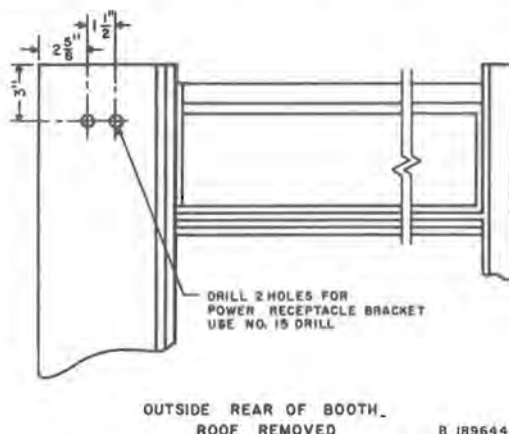

Fig. 26—Holes for Mounting Receptacle Bracket
- (1) Disconnect power cord conductors from back of receptacle. Remove receptacle and bracket.
- (2) Drill holes for new receptacle bracket B-189783 as shown in Fig. 26.